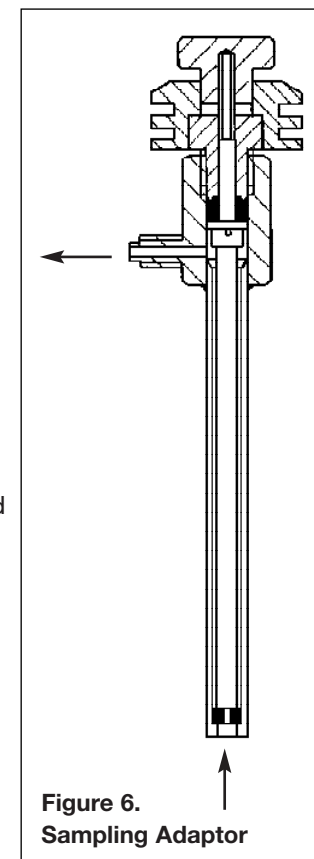

Figure 6. Sampling Adaptor
- By pushing the sample through the absorption tube. The tube is connected into the adaptor as per Figure 6.